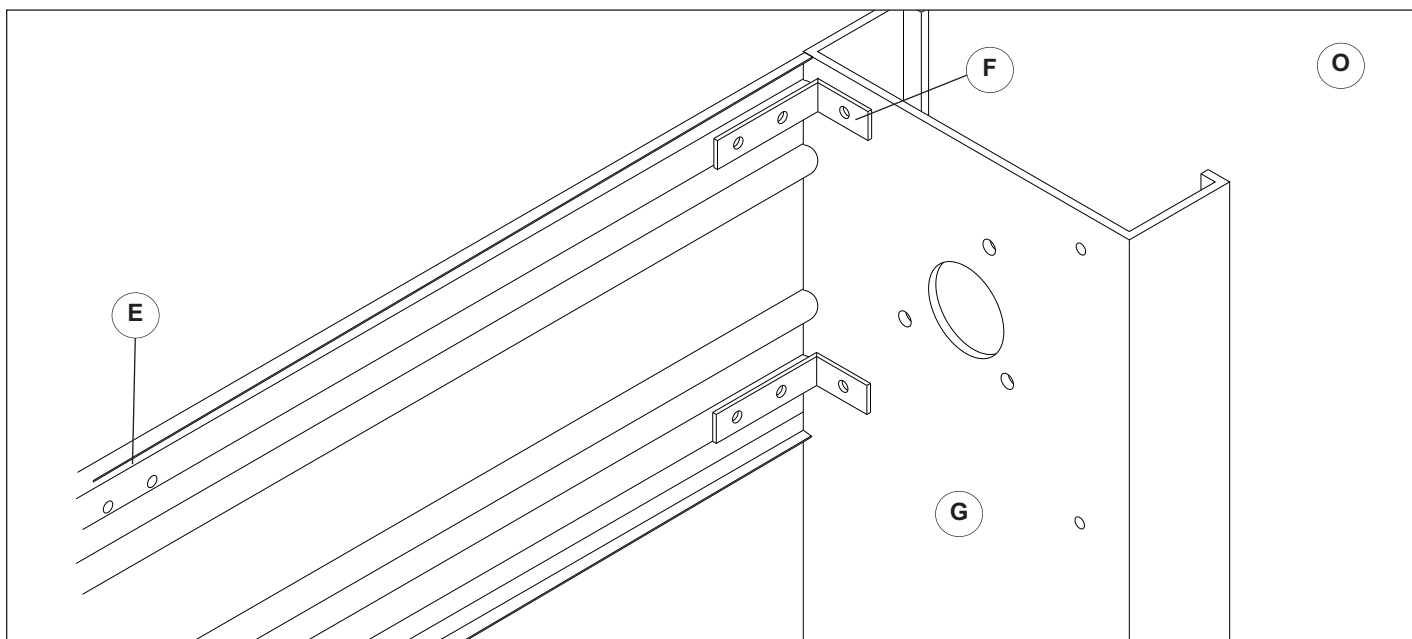
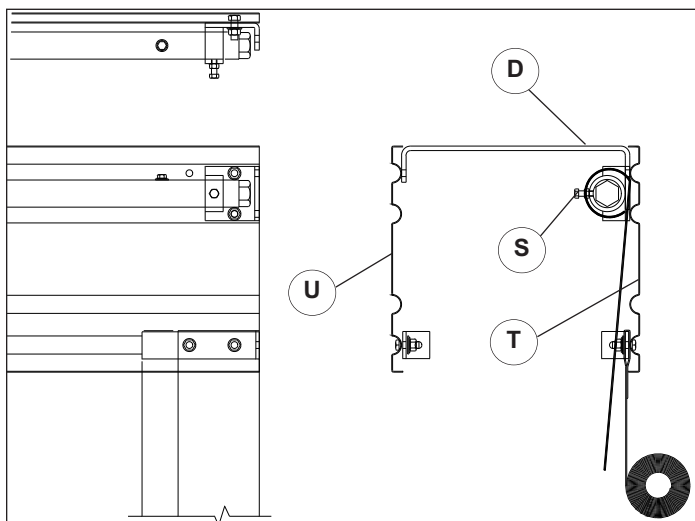

Figure 8.1
Figure 8.2
4. FOLD DOOR - If the curtain is on the rear header brace, the center brace (D) is pre-attached and will need to be fastened to the front header brace later, using the two 3/8" x 1" [10x25] hex head bolts with flat, lock washer and nuts. Figures 8.2 & 8.3.
5. Position rear header brace with the two center holes (E) at the top and the front (Q) and rear (R) V-Flex straps at the bottom.
6. Align the attached "L" (F) bracket holes with the sideframe (G) holes. Fasten with the (6) six 3/8" x 1" [10x25] hex head bolts, lock washers and nuts (S) provided in the parts box, Figure 8.1. Fold Door Only: If the curtain is on the front brace, there will be only (4) four bolts.